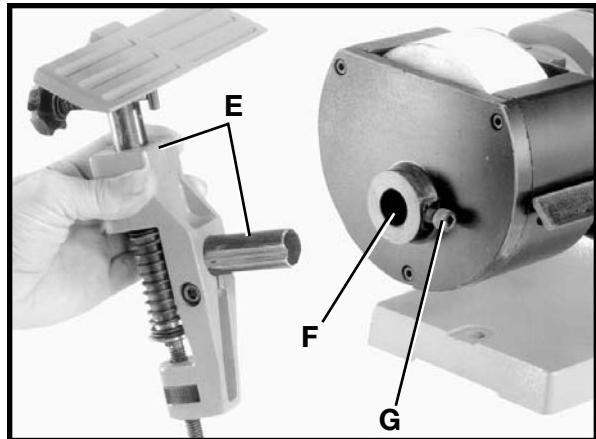

Fig. 35
3. Remove the tool rest and mounting post (E) Fig. 35, from the wet wheel side of the machine and insert post of tool rest assembly into hole (F). Tighten screw (G) into groove of mounting post. All controls and adjustments for the tool rest are explained in the section "ASSEMBLING AND ADJUSTING TOOL AND CHISEL HOLDER."